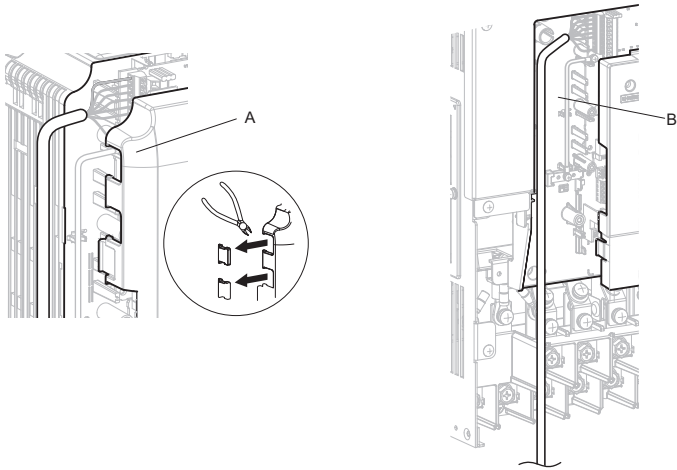

Figure 8 Wire Routing Examples
7. Route the option wiring inside the enclosure as shown in **Figure 8-B**. Take proper precautions so that the front covers will easily fit back onto the drive. Users may also choose to route the option wiring through openings on the front cover of some models. Remove the perforated tabs on the left side of the front cover as shown in **Figure 8-A** to create the necessary openings on these models. Refer to the Peripheral Devices & Options section of the drive instruction manual for more information.